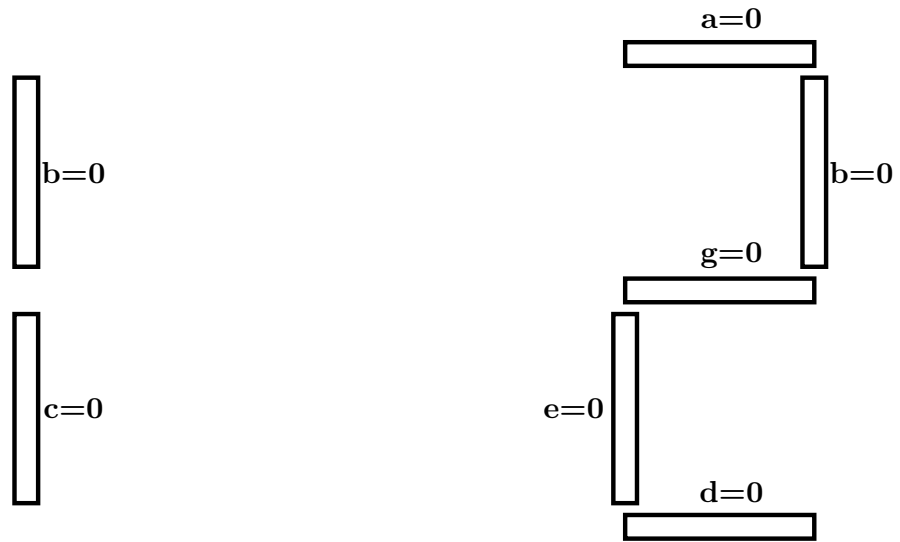

Figure 2.3: Seven Segment connections
Fig. 2.3 explains how to get decimal digits using the seven segment display. GND=0.
3. Draw the numbers 0-9 as in Fig. 2.3 and complete Table 2.4